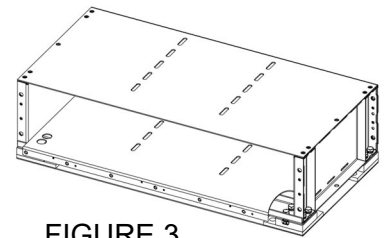

FIGURE 3
1. Remove the module that does not have the top bracket attached from the pallet stack and place on top of the base weldment. See Figure 3.